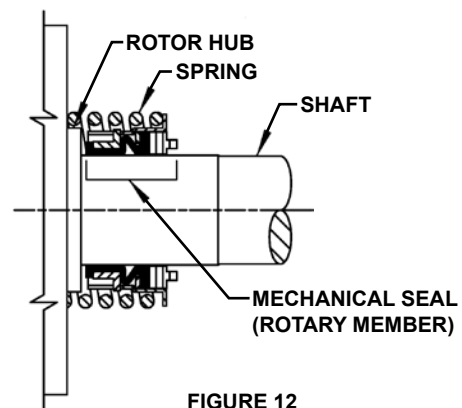

FIGURE 12
5. Place the seal spring on the shaft against the rotor hub. Refer to **Figure 12**.